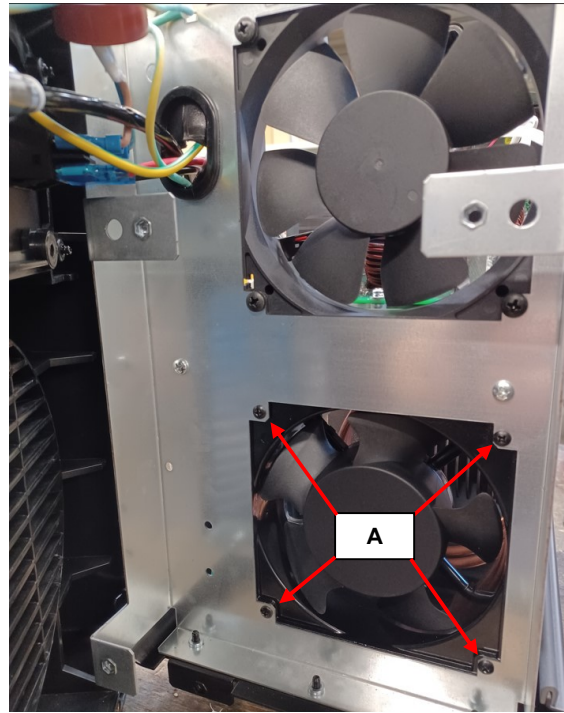

Figure 1a – TH 30K
4. Locate the fan (TH45) or the fans (TH30K). See **Figure1** and **Figure 1a**.